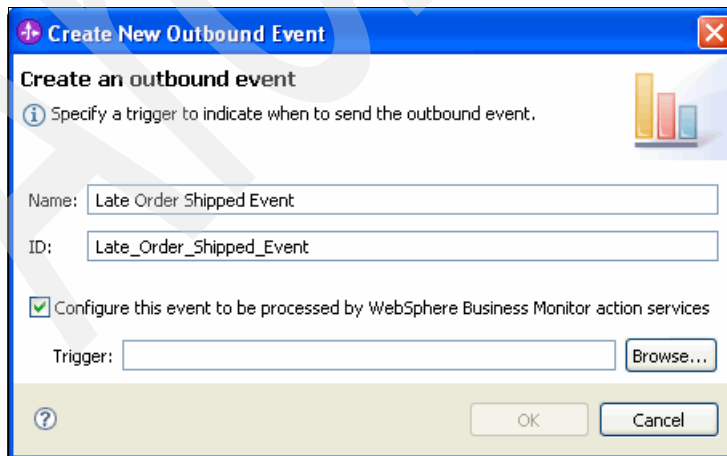

Figure 8-91 Setting the outbound event name
39. In the Create New Outbound Event window (Figure 8-91):